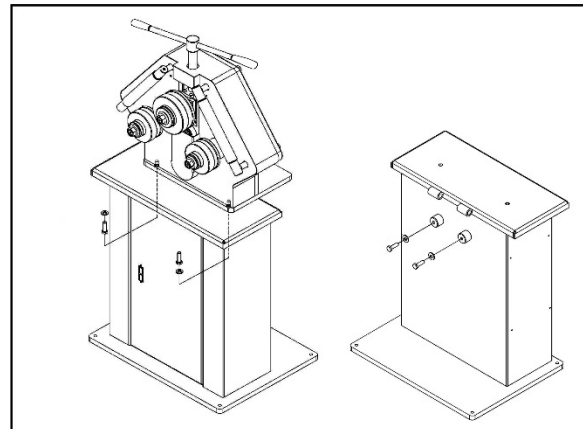

Figure 5-3
1. Open cabinet door and remove two socket head cap screws (Figure 5-3).